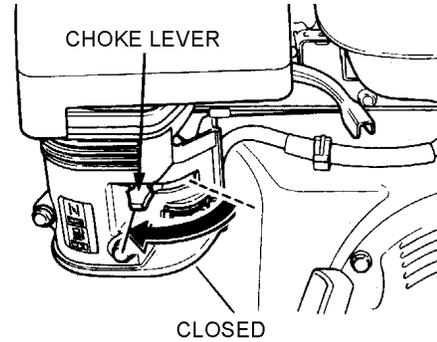

Figure 14. Engine Choke Lever (Closed)
3. Place the choke lever (Figure 14) in the “CLOSED” position if starting a cold engine.